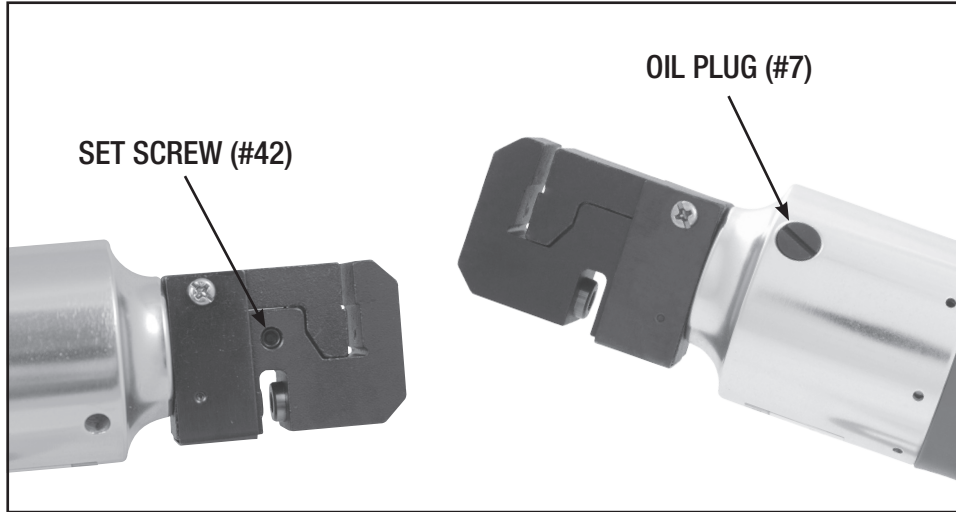

FIGURE 2
2. WHEN NECESSARY, fill the hydraulic system with a high quality hydraulic oil. Remove the Oil Plug (7), refill and then replace the Oil Plug (7). See Figure 2 below.
3. To adjust the Punch, loosen the Set Screw (42), and rotate the tool head. After making needed adjustment, tighten the Set Screw (42). See Figure 2 below.